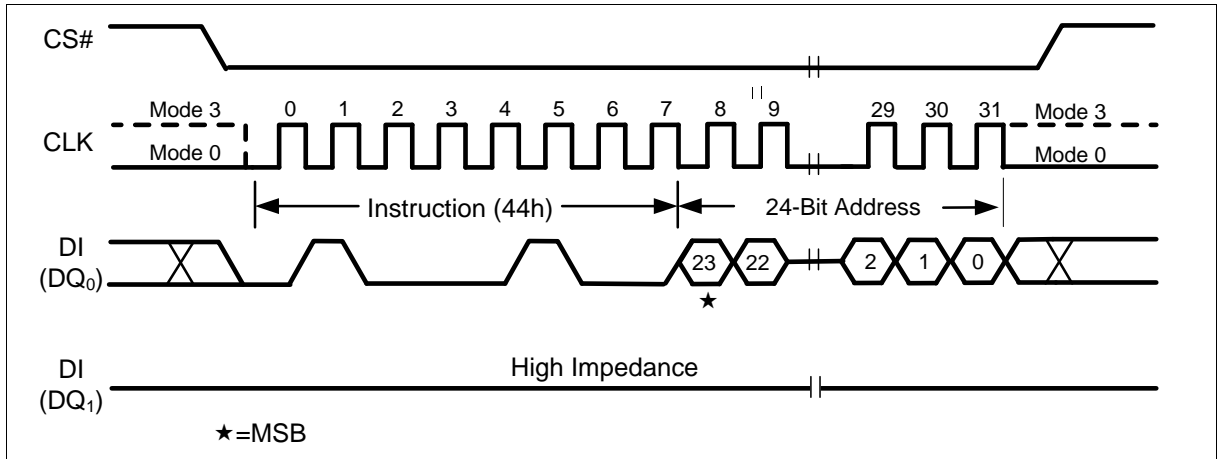

Figure 59 Erase Security Sectors Instruction (SPI Mode only)
The Erase Security Sector instruction sequence is shown in Figure 59. The CS# pin must be driven high after the eighth bit of the last byte has been latched. If this is not done the instruction will not be executed. After CS# is driven high, the self-timed Erase Security Sector operation will commence for a time duration of  $t_{SE}$  (See “12.6 AC Electrical Characteristics”). While the Erase Security Sector cycle is in progress, the Read Status Register instruction may still be accessed for checking the status of the WIP bit. The WIP bit is a 1 during the erase cycle and becomes a 0 when the cycle is finished and the device is ready to accept other instructions again. After the Erase Security Sector cycle has finished the Write Enable Latch (WEL) bit in the Status Register is cleared to 0. The Security Sector Lock Bit (LB) in the Status Register-2 can be used to OTP protect the Security Sectors. Once the LB bit is set to 1, the Security Sector will be permanently locked, Erase Security Sector instruction will be ignored.